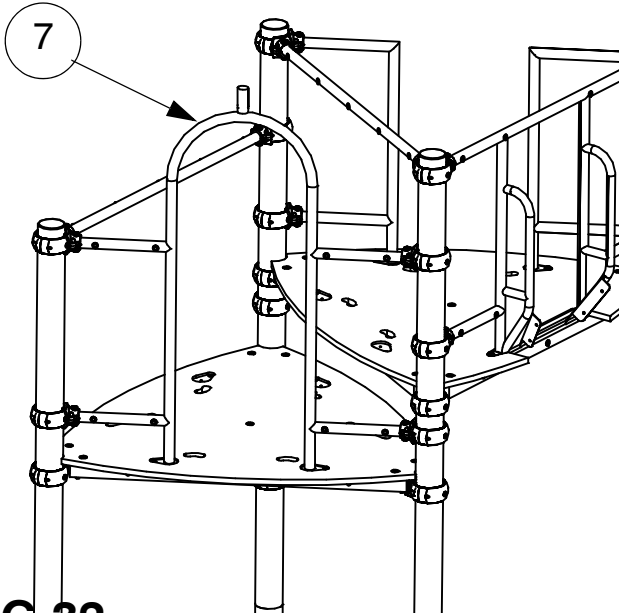

FIG.32
41) Attach in 4 places 1 off Petal Climber Entry Frame (item 7) to the Clamp Rings that are 800mm above the Deck fixings for the 900mm Deck and the lower 600mm centers Clamp Rings. Each end of the Petal Climber Entry Frame rails is held between a Bar Socket Top (item 49) and a Bar Socket Bottom (item 48) using 2 off BHCS Fixings (item 81) and should be fixed with the plastic panel fixing inserts on the outside of the structure. See FIG.32, 33 & FIG.C.
- ii) Attach Petal Climber Entry Frame through Deck into Deck Frame using 2 off M10 x 40 Resistorx bolts (item 54) and M10 washers (item 65).